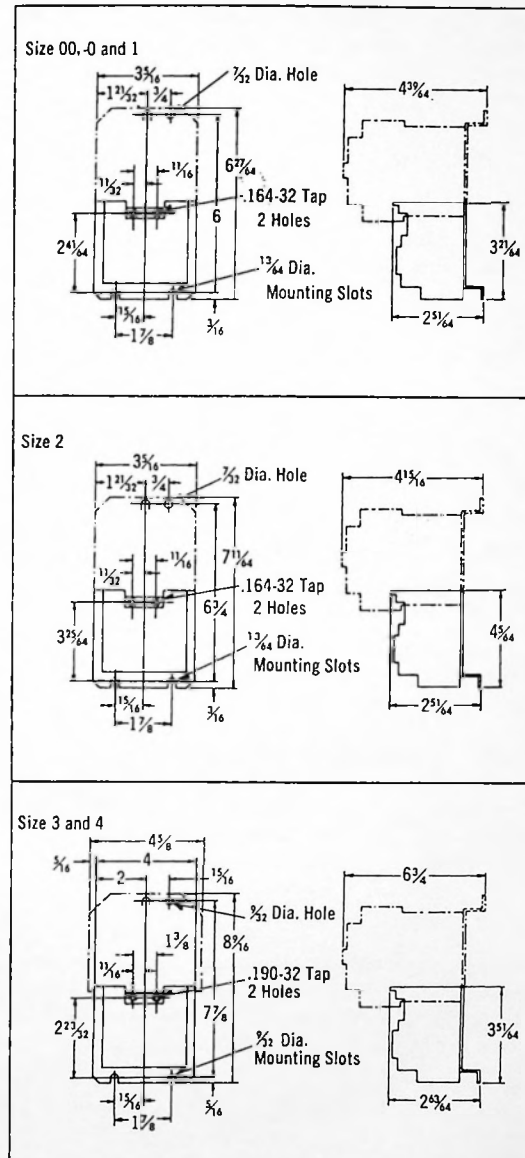

Figure 6 - Mounting Dimensions for Latched A/200 Contactors
When the contactor crossbar is closed (either manually or by energizing the coil) the biasing spring of the latch mechanism rotates the latch mechanism rocker to engage the contactor crossbar and hold it in the closed position. Unlatching is accomplished either by energizing the latch unit coil or by manually pressing on the center of the latch crossbar. This action causes the latching rocker to rotate and release the contactor crossbar. Outline details and mounting dimensions are shown in Figure 6. (Note that sizes 00, 0, 1 and 2 latched units have the same mounting as the respective vertical starter units.)
1. Refer to Figure 6 for mounting dimensions.